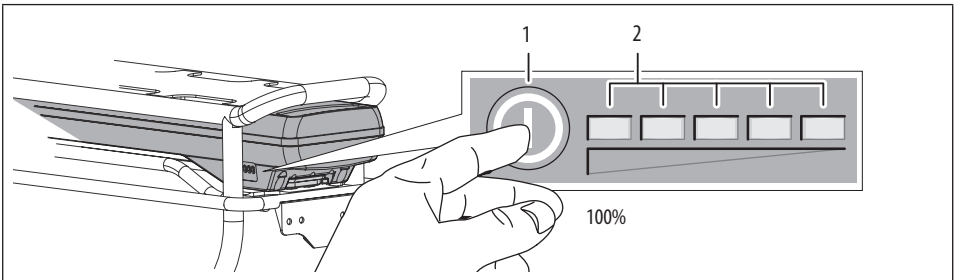

Figure 7.
See Figure 7. Press the battery ON/OFF button (1). When you do this, the battery charge level LEDs (2) will illuminate indicating current battery charge level and the HMI computer display will turn on. When all LEDs are lit, the battery level is 100%. Each LED corresponds to about 20% capacity.